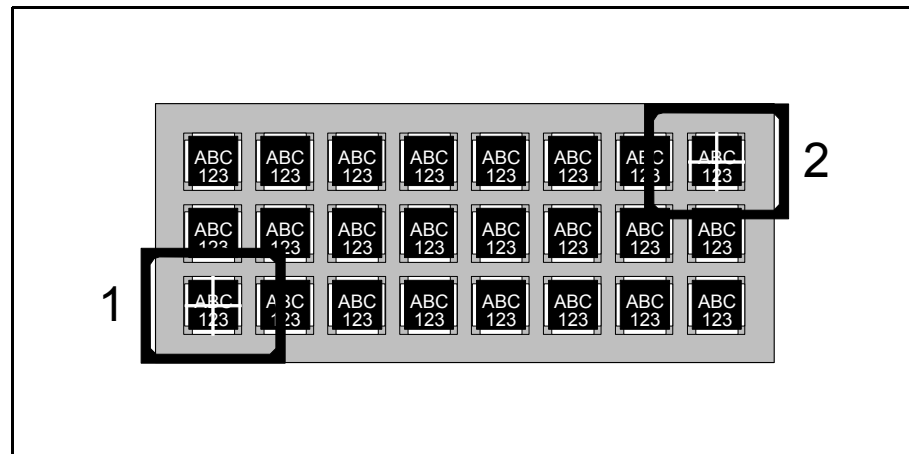

Figure 5-10. Positioning first and last component
Figure 5-10 shows the cross hairs on the first component (1) and on the last component (2).